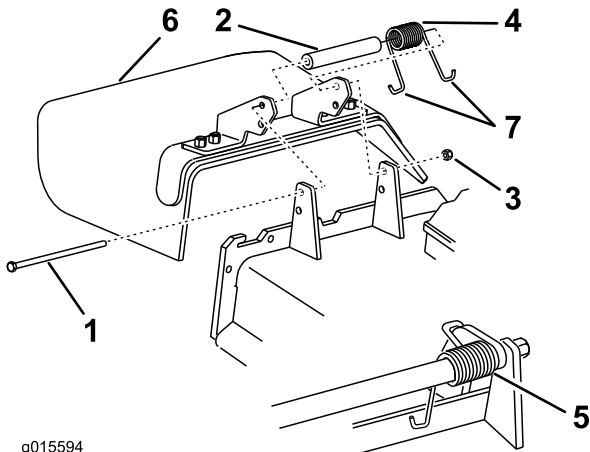

Figure 89
1. Remove the locknut, bolt, spring, and spacer holding the deflector to the pivot brackets (Figure 89).
**Note:** Make sure that 1 J-hook end of spring is installed behind deck edge before installing the bolt as shown in Figure 89.
6. Place 1 J-hook end of the spring around the grass deflector (Figure 89).